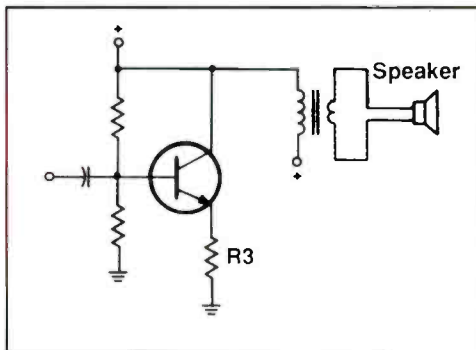

Figure 1. What component would you add to this amplifier to increase sound volume?
9. Add a component to the audio power amplifier in Figure 1 to increase the output sound from the speaker. This is a _____.
The first question is the most obvious. If the power supply is dead, do you have B+ on the appropriate terminal of the switching transistor (either collector or drain)? If B+ is absent, look for a blown fuse or an open fusible resistor (Figure 1). The B+ voltage is routed to the switching transistor through the "primary winding" of a transformer (actually a choke). An open winding in this component will also account for absence of B+ voltage, but in my experience a defective transformer is extremely rare (except in the case of lightning damage).
A blown fuse or fusible resistor almost always indicates shorted components, usually at least the switching transistor and sometimes the bridge rectifier. Routine troubleshooting will enable you to spot and replace such defective components. A good rule of thumb to follow is: if the switching transistor is shorted, replace it and its control transistor (Q1 and Q2 in Figure 1).
Now look at a more complicated power supply (Figure 1), one Samsung has used extensively in its VCRs and the VCRs it has vended for others. Besides Q1 and Q2 what can cause the no-oscil-
6V line in Figure 1. You will need to change grounds when you monitor these voltages because you are moving from hot ground to cold ground.
mal sounds from the switching transistor. If there is no squeal, if the waveform at the collector/drain looks normal, and if the voltage regulates at or very near what it is supposed to (Figure 1 at slightly less than 6V and Figure 4 at slightly more than 5V), increase ac to the full 120V. If everything still looks good, congratulate yourself because you have completed the repair.